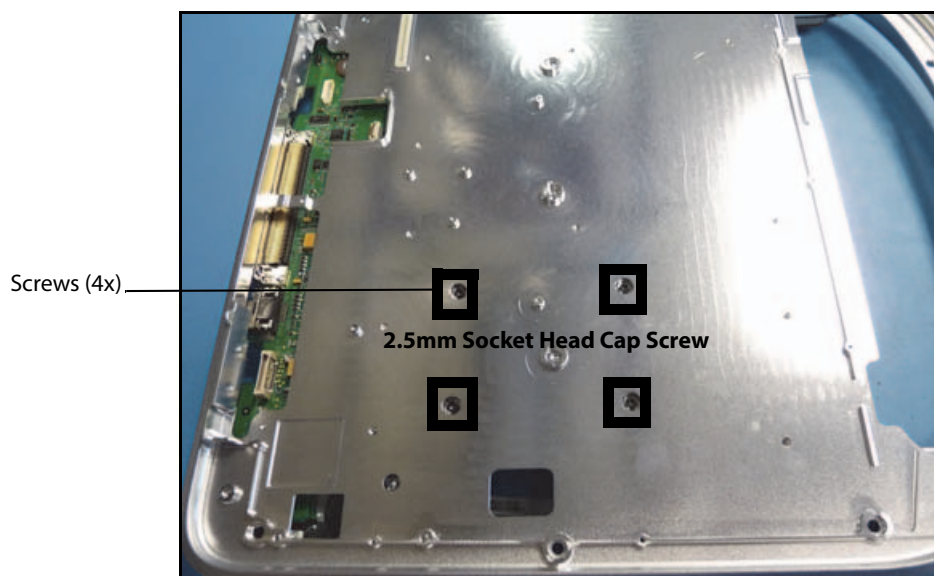

Figure 6.16 Nest Frame Top Screws
- 6 Remove the 4 Socket Head Cap Screws as shown in Figure 6.16. This releases the Nest Frame and will allow the Main PCBA to be removed.